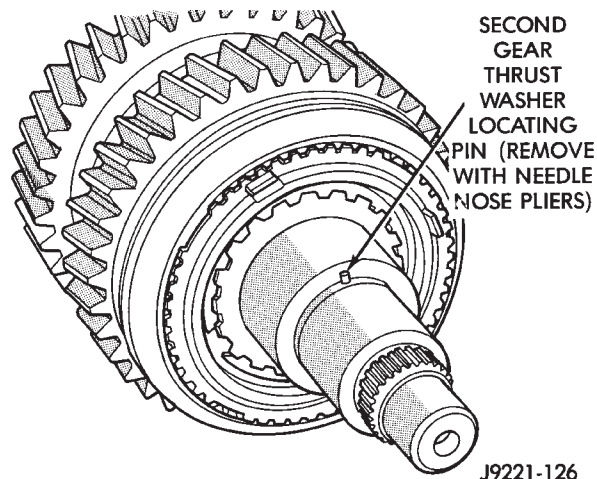

Fig. 63 Thrust Washer Locating Pin Removal
(7) Remove thrust washer locating pin (Fig. 63). Use needle nose pliers to grip and remove pin.